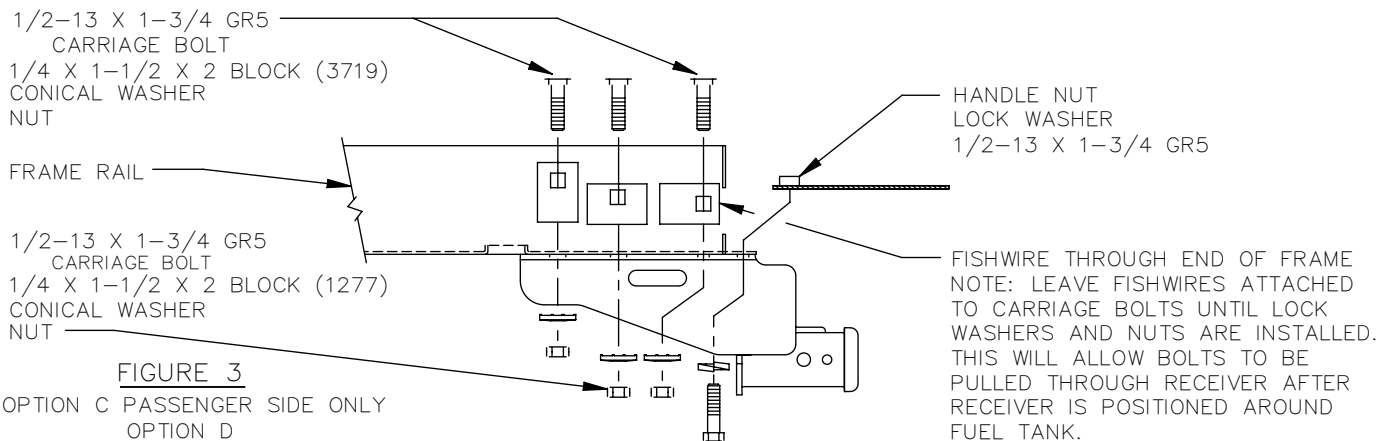

FIGURE 3
- A. REMOVE TOW HOOK AND TOW HOOK BRACKET; RETURN COMPONENTS TO VEHICLE OWNER. MOUNT DRIVER'S SIDE OF RECEIVER USING M12 BOLTS AS SHOWN IN FIGURE 1. MOUNT PASSENGER SIDE OF RECEIVER AS SHOWN IN FIGURE 3.
OPTION D – SEE FIGURE 3
- A. FISHWIRE 1/4 X 1-1/2 X 2 BLOCKS (1277 & 3719) AND 1/2 X 1-3/4 GR5 CARRIAGE BOLTS THROUGH END OF FRAME AND INTO EXISTING HOLES. RAISE HITCH INTO POSITION ANDS ATTACH PER FIG. 3.